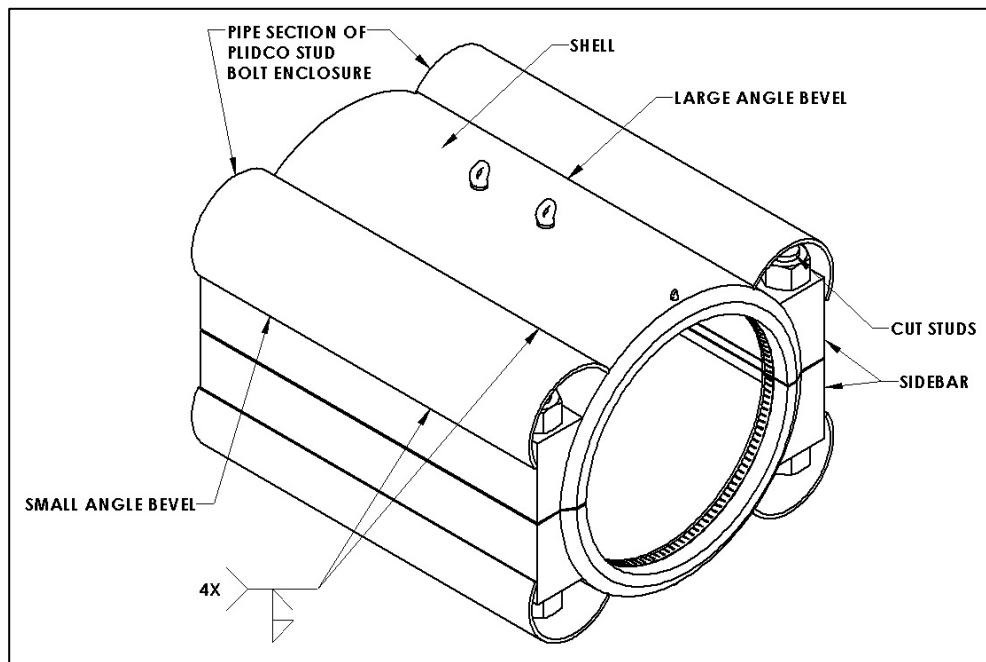

Figure 1
- The pipe sections of the PLIDCO Stud Bolt Enclosure fits around the studs (after cutting), as shown below, in Figure 1.
- The Pipe Sections should be installed in a manner such that the larger of the two longitudinal bevels on the Pipe Section of the PLIDCO Stud Bolt Enclosure is mating against the outside diameter of the PLIDCO Split Repair Product, as shown below in Figure 1. Doing this will result in the smaller of the two longitudinal bevels be mated against the sidebar of the PLIDCO Split Repair Product.